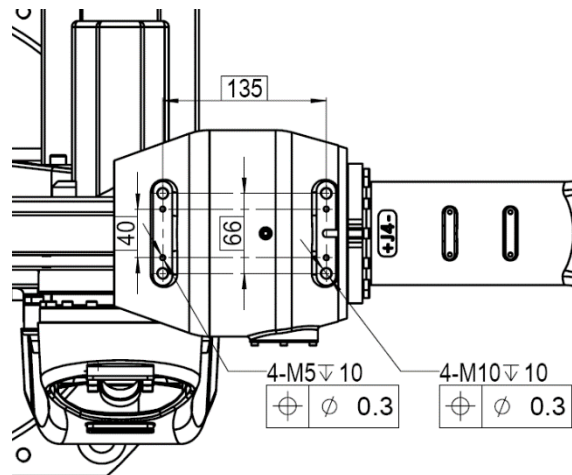

Figure 7-6 Diagram of the manipulator elbow load interface
The specifications and dimensions of the equipment mounting hole at the elbow of the J3 axis of the manipulator are shown in Figure 7-6.
- Centroid position of elbow load shall be located inside the area sized 135mmx66mm for installing screw as shown in Figure 7-6.